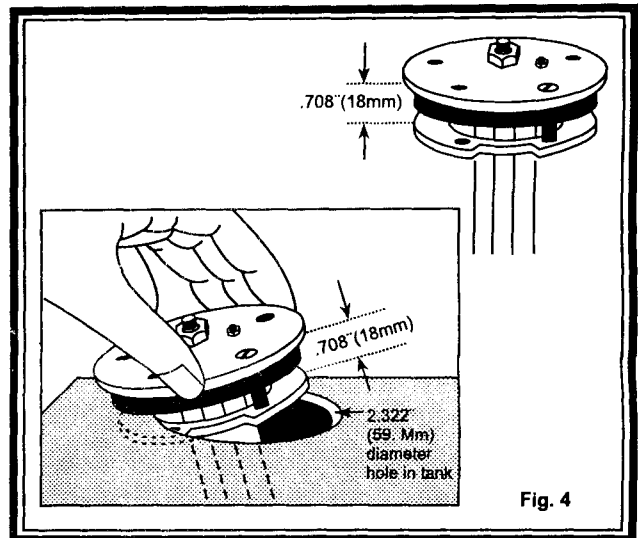

Fig. 4
3. Refer to Fig. 4 and slip the fuel sender assembly into the 59 mm hole in the tank, turning until it goes into the tank.